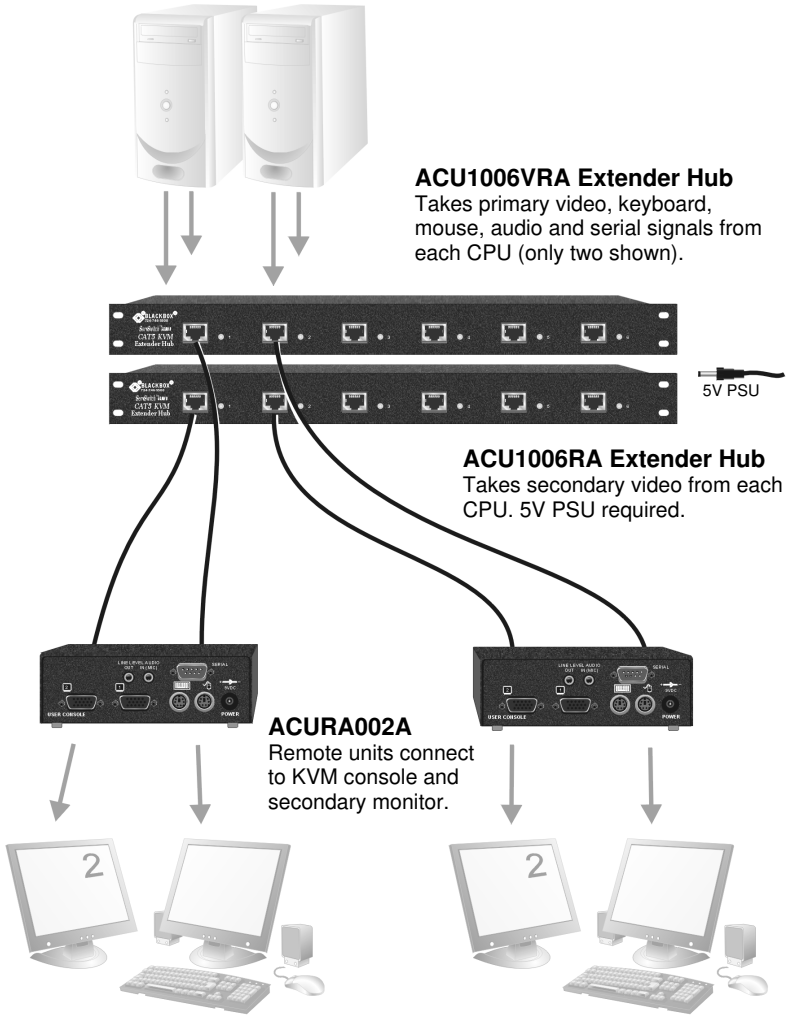

Figure 13 Dual-monitor consoles with serial and audio extension
- Six dual-monitor consoles with serial and audio (Figure 13).